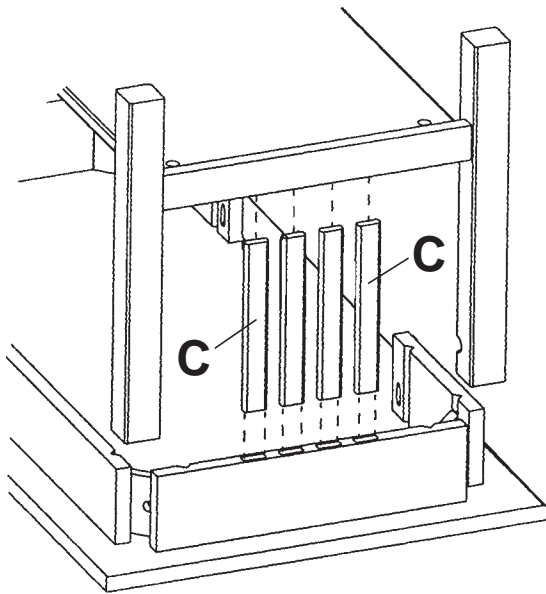
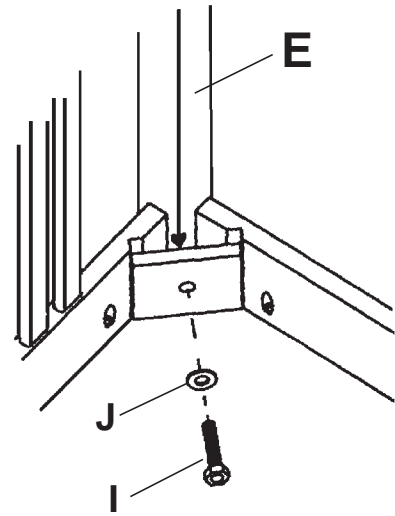

FIG. 4
FIG. 5
- 4) Insert the Slats (C) into the holes in the bottom of the end aprons on the top assembly. **DO NOT GLUE THE SLATS.**
- 5) Slide the leg assembly down over the top assembly so that the legs fit in the gap between the aprons and slowly work the slats into the holes in the shelf supports. See FIGURE 4. When the legs are flush against the top, insert a 3/8" x 2 1/2" Hex Bolt (I) with a Washer (J) through the leg support into the insert in the leg and fasten securely. See FIGURE 5.